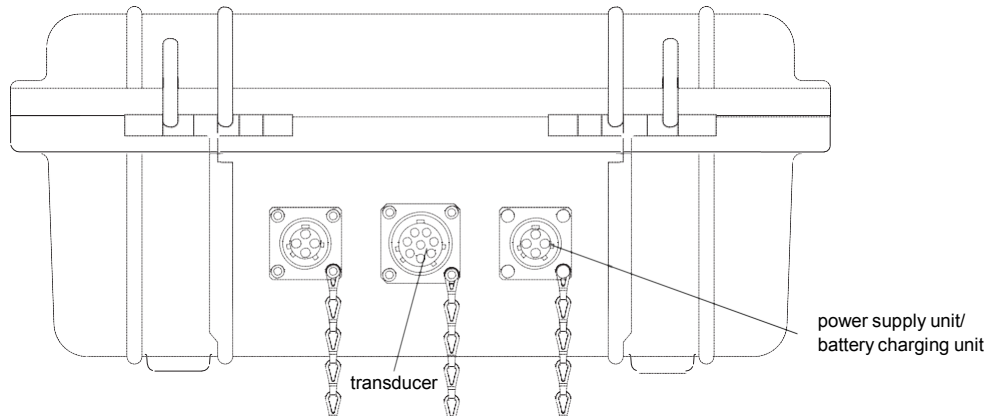
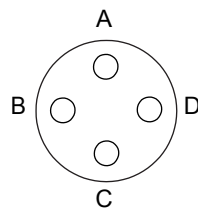

Fig. 6.1: Connections of UDM 300
Fig. 6.2: Pin assignment for the connection of the output
The transducer connection is located on the back side of the transmitter (see Fig. 6.1)
Connect the power supply unit to the transmitter (see Fig. 6.1). Switch on the transmitter. Charging starts automatically. The max. charging time is approx. 8 h.
- Connect the power supply unit to the transmitter (see Fig. 6.1).
For the connection of the output see Fig. 6.1, Fig. 6.2, Tab. 6.1 and Tab. 6.2.